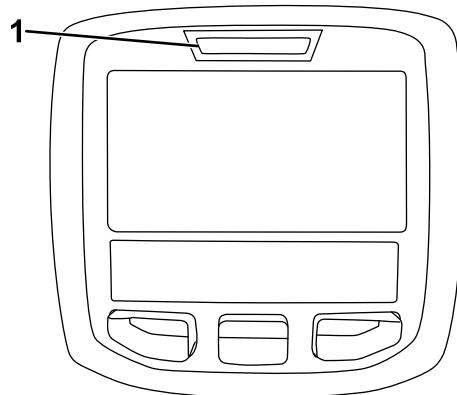

**Figure 40**
- Rear—each side of the machine on the rear frame (Figure 40).